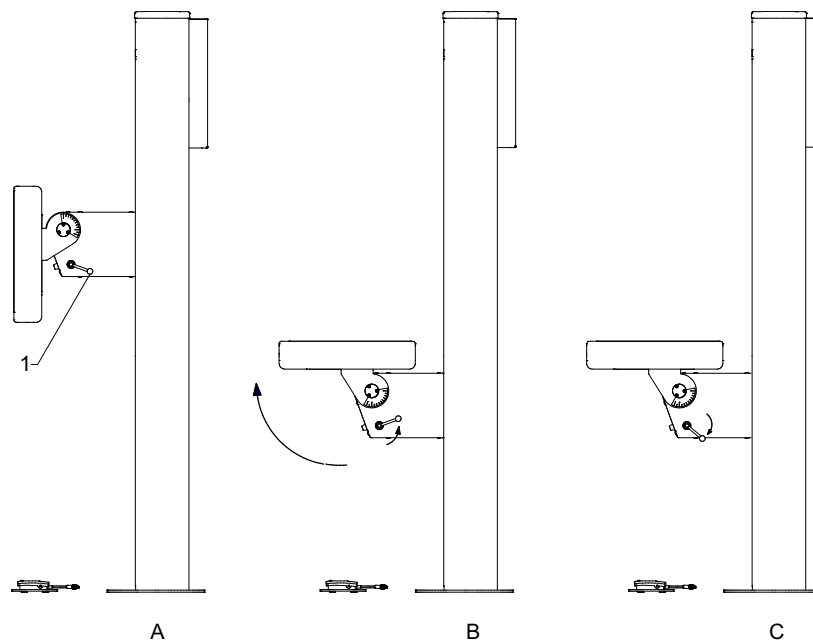

Fig. 3-14 Tilting detector holder
To position the handle (See pos. 1 in **Fig. 3-14**, in its start position: